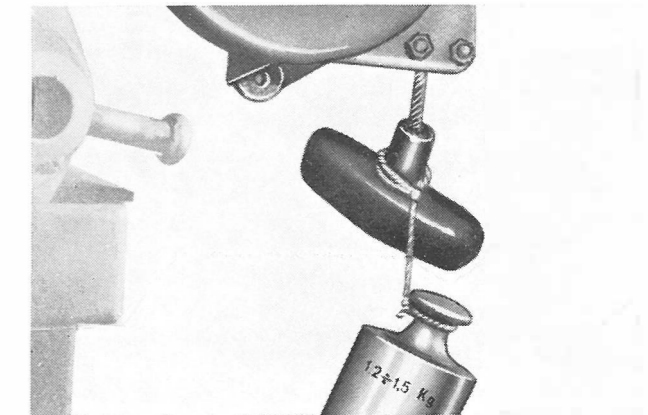
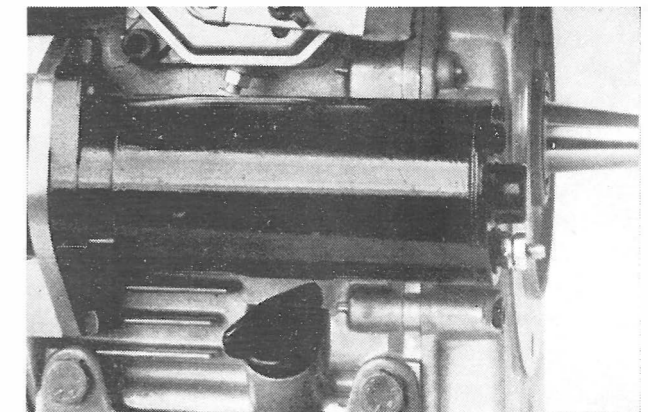

Fig. 47
Fig. 48
La tension du lanceur automatique avec la cordelette complètement enroulée doit être 1,2 ÷ 1,5 Kg. après avoir dépassé le premier point de friction (Fig. 47).
- 1) Démarrage électrique par démarreur et alternateur recharge batterie (Fig. 48).
Check helical return springs (2) (Fig. 48) and replace them if engaging dogs (3) do not slide out. When the rope (6) breaks, dismantle the pulley (5), after following procedure to release spiral spring (7) tension has been adhered to:
- place the rope in the pulley groove (5);
- let the pulley turn back until spring (7) has lost tension completely;
- remove pulley and replace rope (6) bending in the rope ends to fit the metal ring, so that pulling tension is exerted only on the housing sides and not on cable passage hole;
- assemble pulley (5) inserting spiral spring (7) terminal into its socket;
- restore tension of spiral spring (7) by rotating pulley (5) 2 ÷ 3 turns with completely unwound rope.
Rewind starter tension with completely wound rope must be 1.2 ÷ 1.5 Kg. after initial friction has been taken up (Fig. 47). Replace spiral spring (7) if found broken.
- 1) Electric starting with alternator for battery recharge and starter motor (Fig. 48).
Bei völlig aufgewickeltem Seil muss die Spannung nach Überwindung der ersten Reibung 1,2 ÷ 1,5 kg betragen (Abb. 47). Falls zerbrochen, Spiralfeder ersetzen.
- 1) elektrisches Anlssystem mit Anlassmotor und Drehstrom-Generator zur Batterieaufladung (Fig. 48).